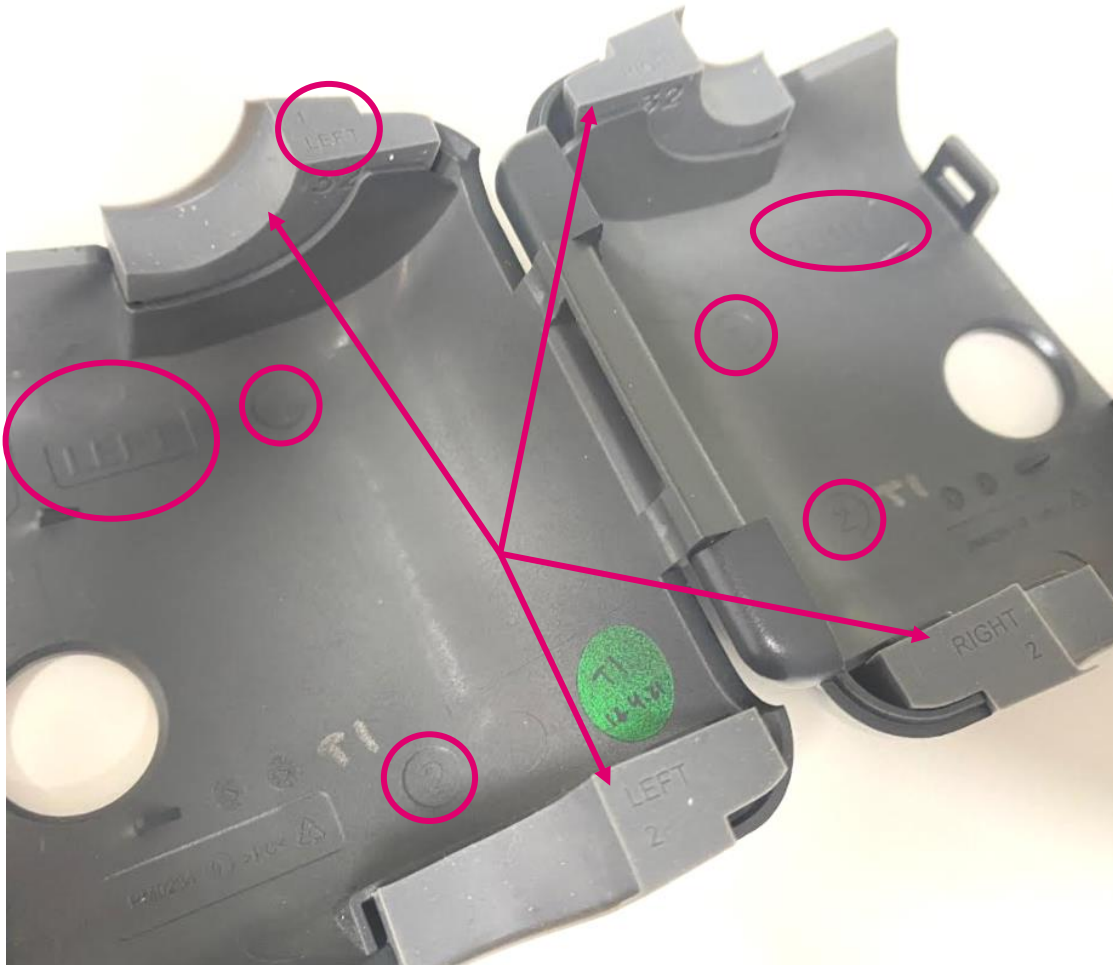

Figure 19: Seals Position on External Cover
2. Remove the external cover by lifting the 4 clips. Do not lose the 4 seals (Figure 19) in the external cover.